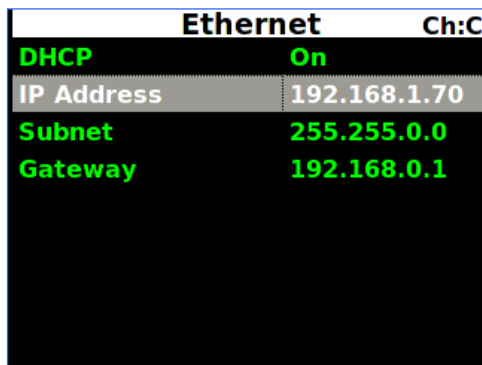

Figure 149: IP Address Selection
1. To assign an IP address, use the down arrow on the keypad to highlight the IP Address (Figure 149), then press the Enter key.